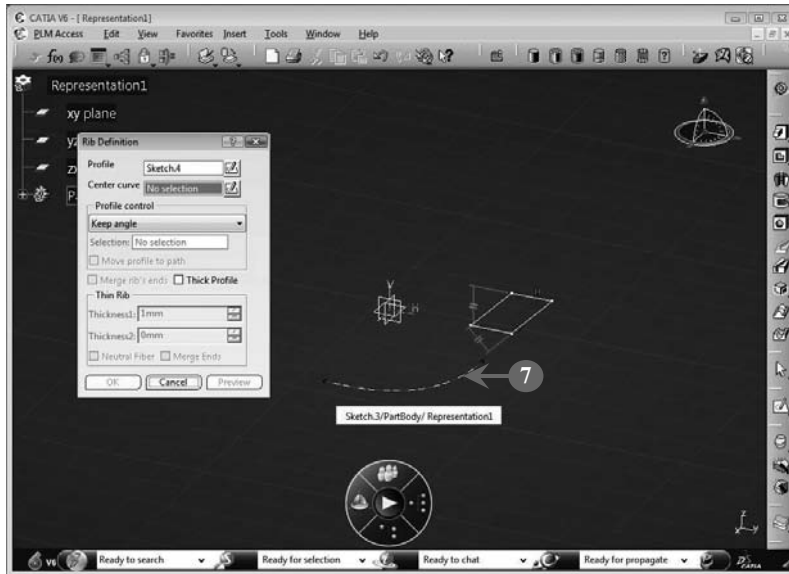
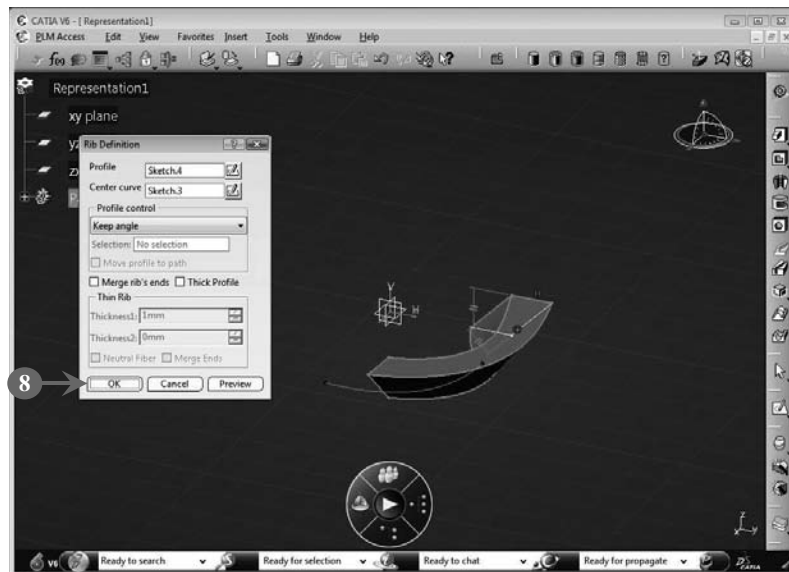

FIGURE 3.37
FIGURE 3.38
The **Rib Definition** dialog box is opened, as shown in **Figure 3.37**:
7. Select the profile curve to create a rib (Figure 3.37). The preview of the rib is displayed in **Figure 3.38**.
8. Click the **OK** button in the **Rib Definition** dialog box, as shown in Figure 3.38: